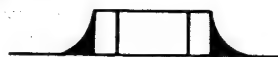

Figure 70.
8. The soldering amount should be proper: with an excessive amount the chip may be cracked and subject to other troubles (curvature of PWB, cramp of terminals, etc.). See Fig. 70.